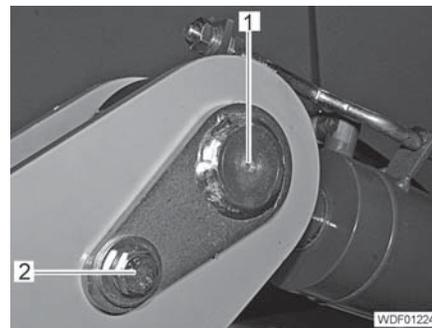

Fig. 309 Rod end attachment
- Unscrew the screw (Fig. 309,2).
- Drive out the pin (Fig. 309,1).
- Drive in the pin (Fig. 309,1).
- Screw in and tighten the screw (Fig. 309,2) with the spring lock washer and washer.